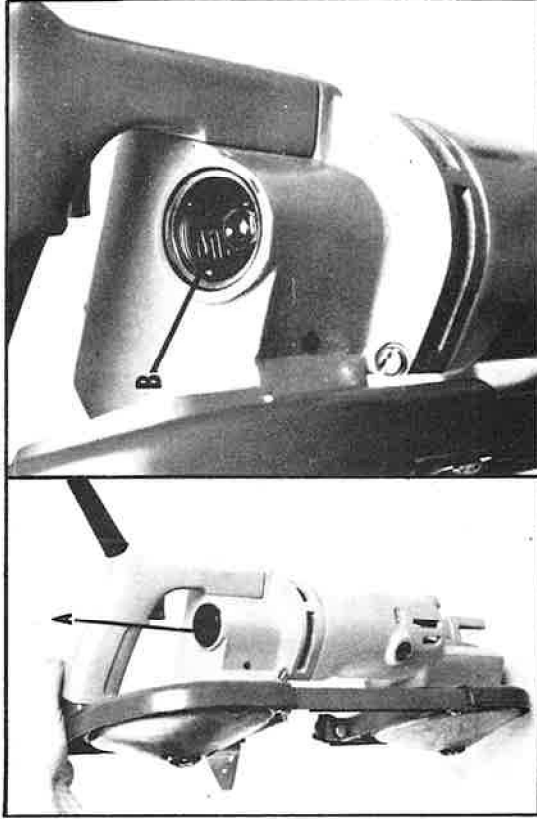

Fig. 8
2. Remove oil filter plug and gasket (A) Fig. 8.
4. With motor running, observe whether the lubricant is being carried over the top of the worm gear teeth (B) Fig. 8. If not, stop the motor and add a small amount of lubricant furnished with your saw.